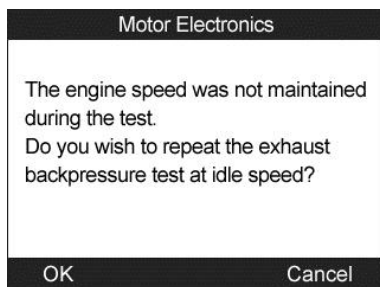

Figure 13.41
- If the engine is not running at idle speed, the tool will display a warning message. (Figure 13.41) Select **OK** to repeat the test or select **Cancel** to exit.